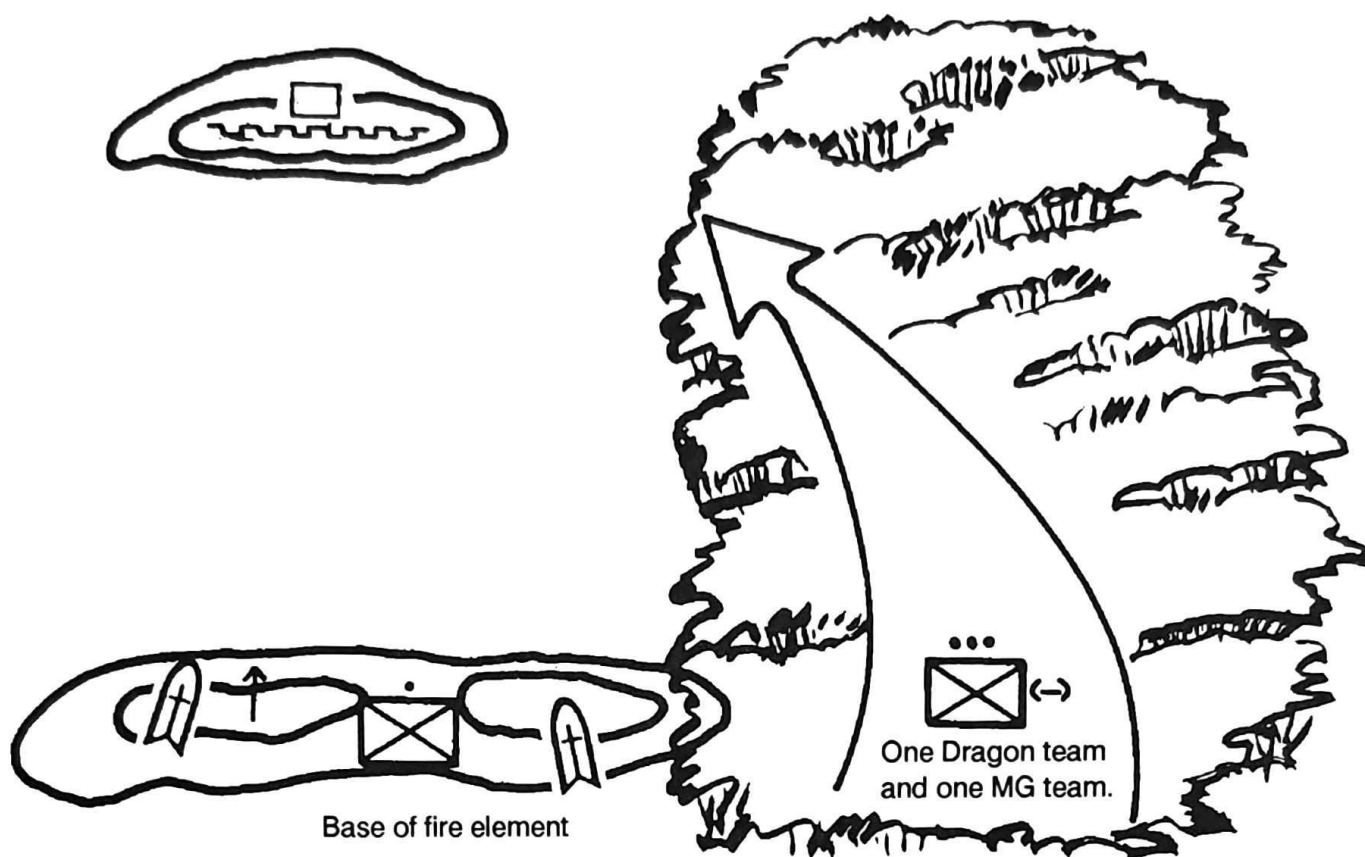

Figure 3-35. Employment of the base of fire.
(2) The dismounted infantry platoon uses Dragons and machine guns as the main elements of its base of fire. A rifle squad is often assigned as the base of fire, which the PSG normally controls. The PSG coordinates the supporting fires with the platoon leader, using radio and visual communications. The base of fire can be employed from a stationary position (Figure 3-35) or moved by